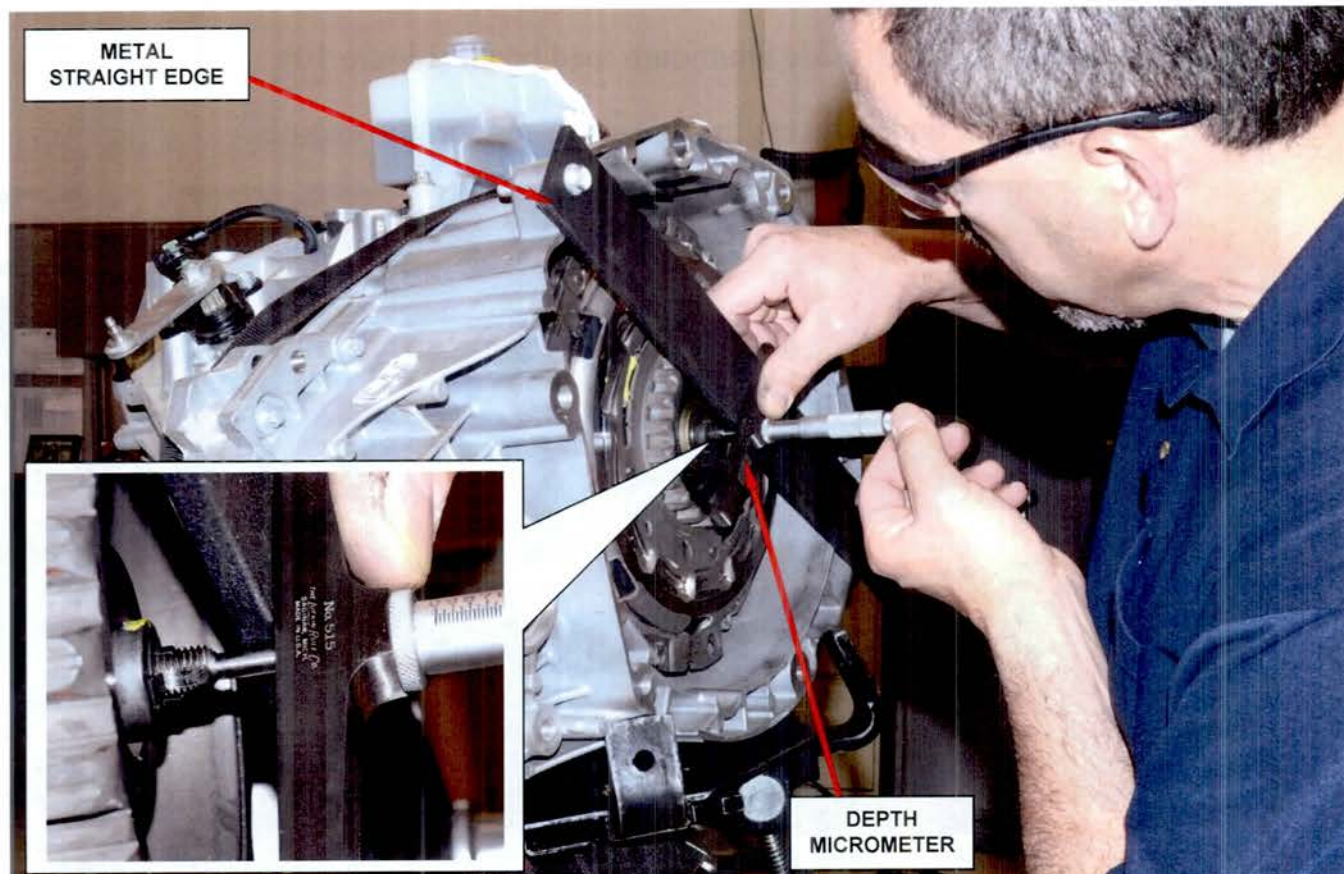

Figure 11 – Measure and Record the Slave Cylinder Rod Depth
40. Measure and record the clutch slave cylinder rod depth from the straight edge to the tip of the clutch slave cylinder rod (Figure 11).